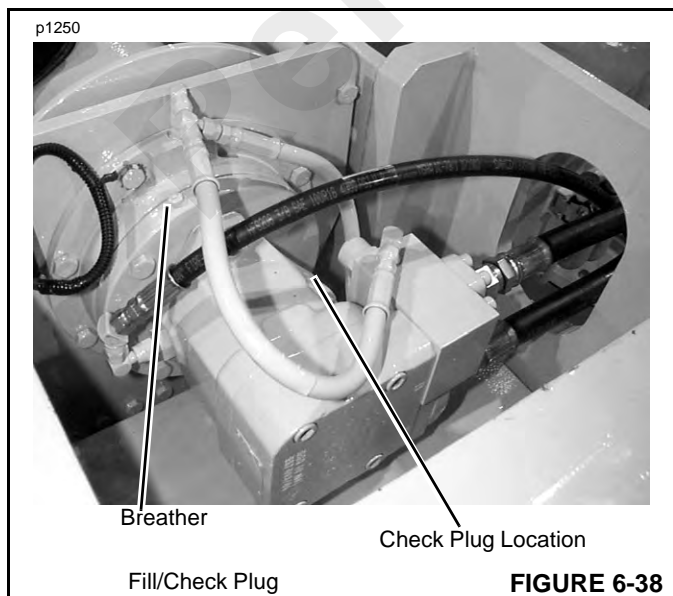

FIGURE 6-38
3. Clean around the gearbox fill/check plug (Figure 6-38) and then remove the plug.